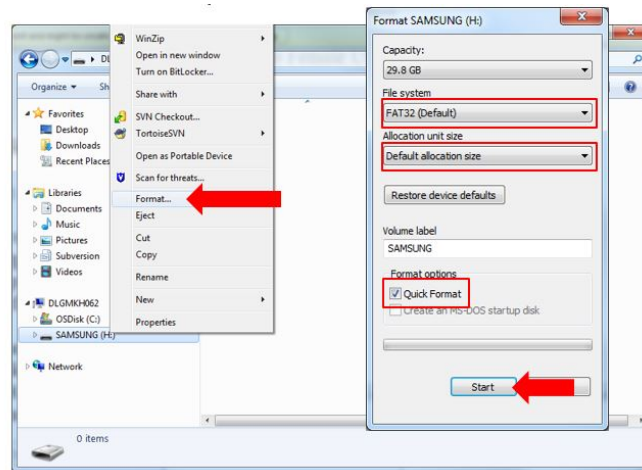

Fig. 7
12. Perform the following steps to format the USB flash drive Fig. 7.